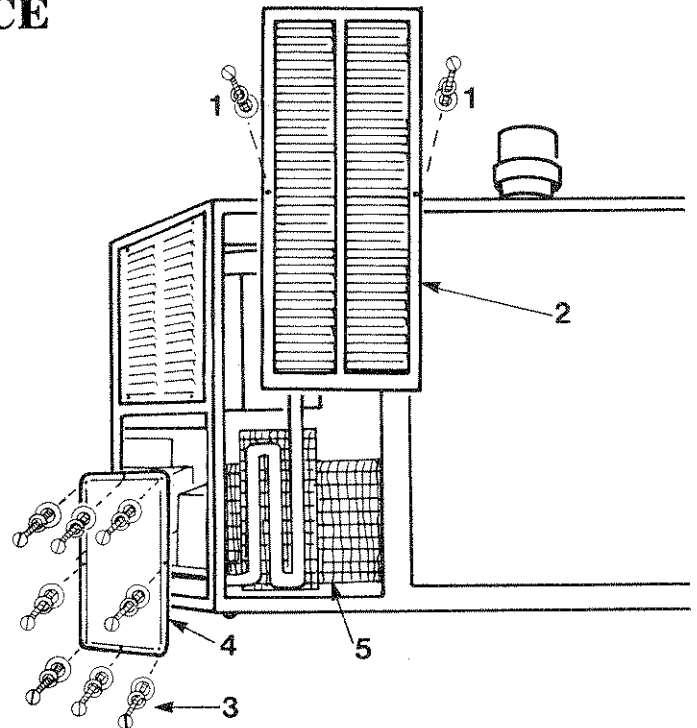

FIGURE C1
2. Remove the two screws (1) that hold the louvered panel (2) to the back of the chamber. See Figure C1.
4. Remove the eight screws (3) that hold the side panel (4) to the right side of the chamber.
6. Use an OSHA approved source of compressed air to blow all the dust and dirt from the condenser fin coil (5).